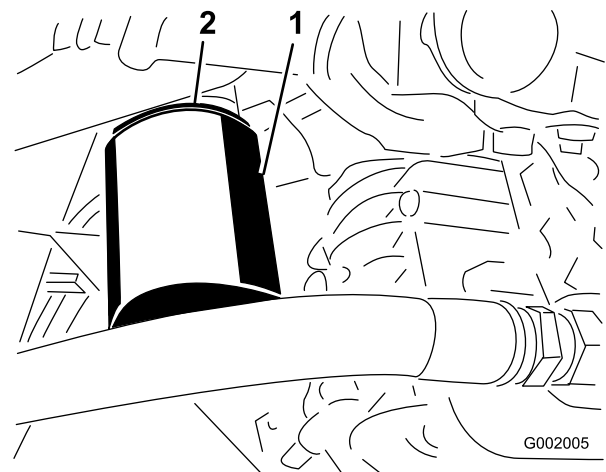

Figure 64
- Remove the filter (Figure 64).